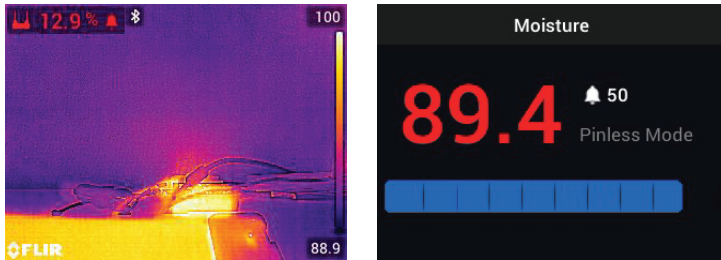

Figure 7.15 Moisture Alarm display examples
5. When the measurement exceeds the threshold, the text for the measurement reading will appear red in color. Note that in the Moisture-only mode, the larger digits appear in red when the alarm limit is exceeded. See **Figure 7-15** below.